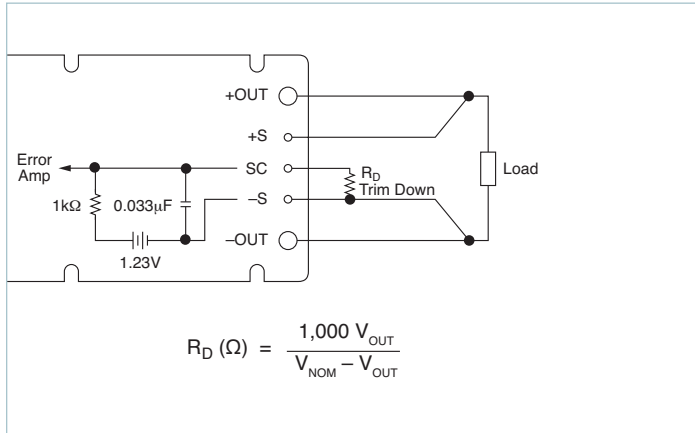

Figure 2.12a — Output voltage trim-down circuit (Maxi / Mini)
**Trim Down:** The converter is **not** a constant-power device; it has a constant-current limit. Hence, available output power is reduced by the same percentage that output voltage is trimmed down. Do not exceed maximum-rated output current. The trim-down resistor must be connected to the –S pin (–OUT pin on a Micro). (Figures 2.12a and 2.12b)